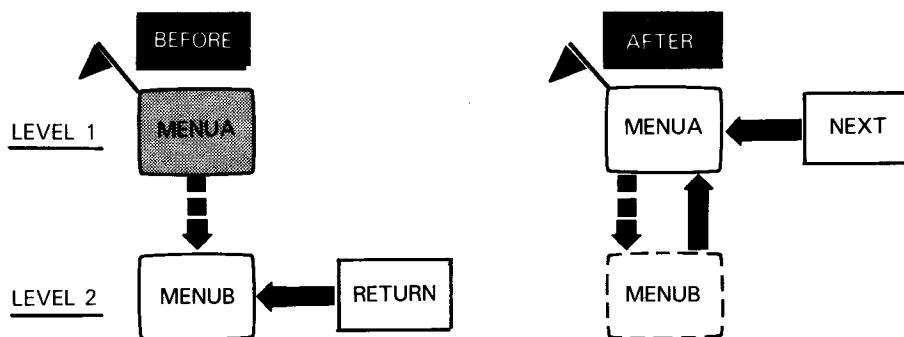

Figure 2-7. Example 1 of the RETURN Command
- It finds another menu previously marked by the MARK command, as in Figure 2-7. In this case, the menu processor stops traveling and gives the marked menu control.
In Figure 2-7, the menu chain starts with two menus, MENUA and MENUB. Earlier, two things had happened: MENUA executed a MARK command on itself (hence the flag); then it called MENUB. Now the menu processor executes a RETURN command. Menu control travels back up through the menu chain and stops at MENUA because it was previously marked. As the menu processor leaves MENUB, it breaks the link between menus, forcing MENUB out of the menu chain.